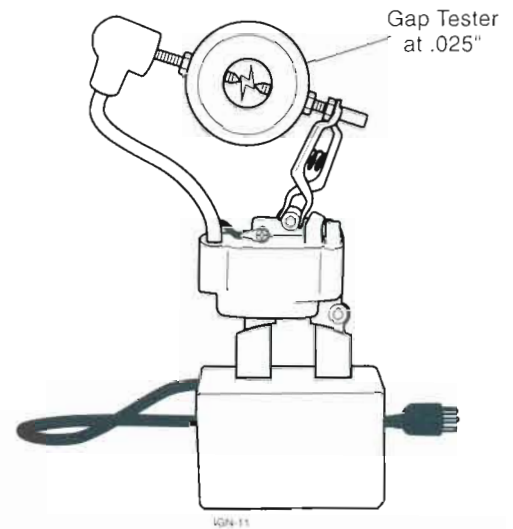

Figure 5.20 Modular Coil on Simulator
- One-piece (modular) ignitions can be quickly tested on a flywheel simulator (Figure 5.20).